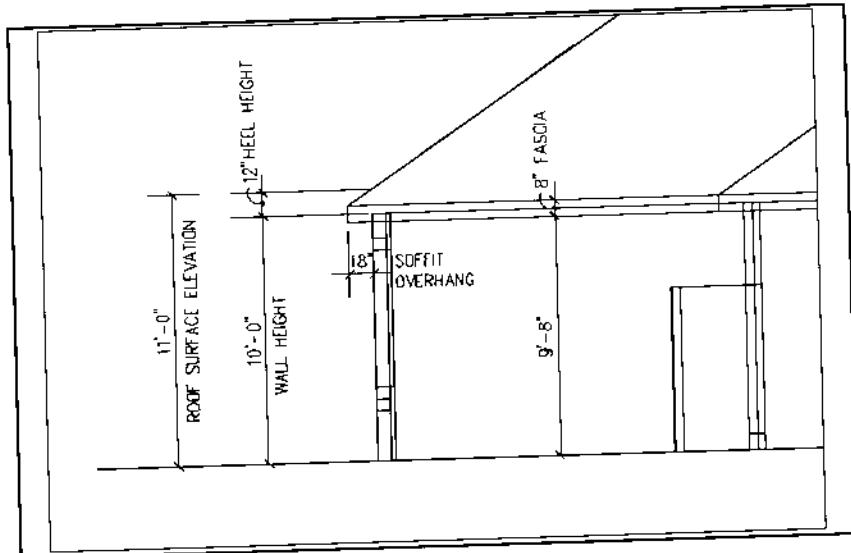

Figure 12.
3. Draw a 3D roof with the roof elevation at the perimeter line 11'. The perimeter line and other roof terms are shown in Figure 12.
Note: If the perimeter line is on the outside wall edge, roof surface elevation includes the height of the wall and the distance from the top of the outside wall face (top of bearing plate) to the roof plane (as shown in Figure 12).